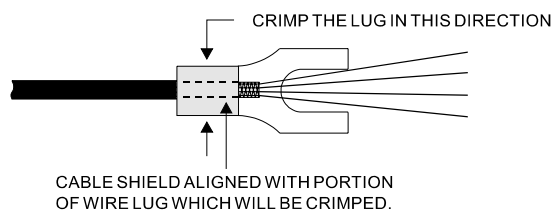

Figure 4a
- Insert the cable through the lug as shown in Figure 4a.